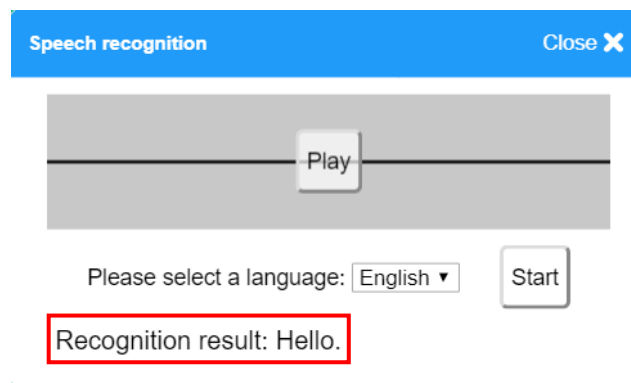

Figure 5.12 Testing the voice module
Step 6: After recording the voice, click **Stop** to check whether the text of the recognition result matches the voice you've recorded. If yes, the speech recognition module can be used normally, as shown in Figure 5.12.